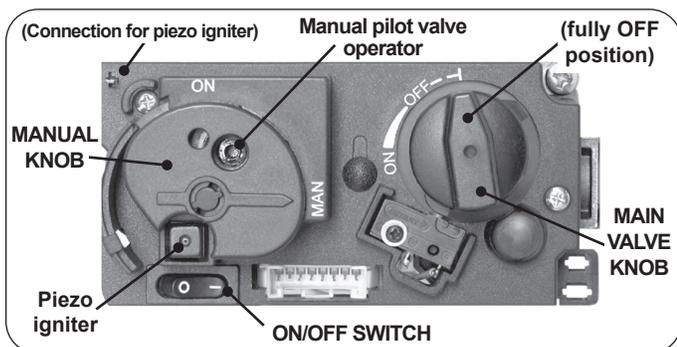

Fig. 25-1 Combination control
2. Locate the valve on the unit. Turn the control knob clockwise ↻ to **OFF**, the manual knob clockwise ↻ to **MAN**, and place the ON/OFF switch in the **OFF (O)** position (Fig. 25-1).
5. Push the manual pilot valve operator **firmly and fully** in and hold. Hold a long-stem match/ long-necked butane lighter near the thermocouple to light the pilot. Continue to hold the knob in for about one (1) minute after the pilot is lit. Release the manual pilot valve operator. The pilot will remain lit. See Fig. 25-1 and 25-2. If it goes out, repeat steps 2-5.
1. Ensure the pilot is burning. Turn the manual knob counterclockwise ↺ to **ON**. Turn the control knob counterclockwise ↺ to **ON**. See Fig. 25-1. The valve will open and the burner will light.
To shut down the main burner (pilot will remain lit), turn the control knob clockwise ↻ to the **fully OFF** position (see Fig. 25-1).
To shut down the burner and pilot (total shutdown), turn the control knob clockwise ↻ to the **fully OFF** position, and place the ON/OFF switch in the **OFF (O)** position (see Fig. 25-1).